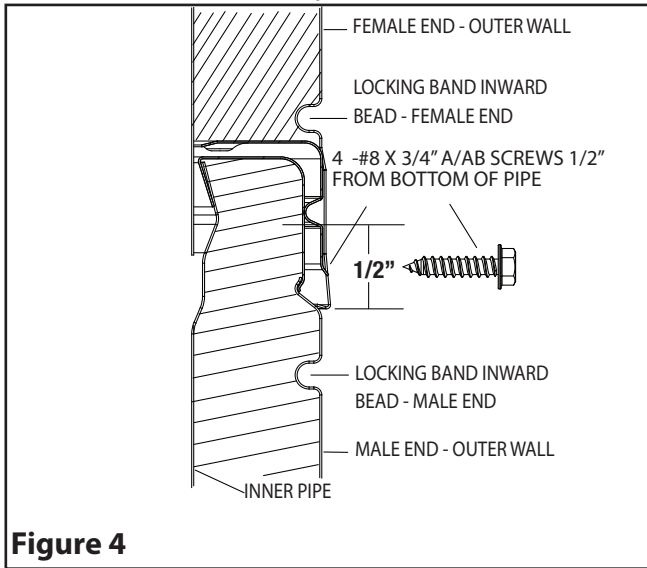

Figure 4
As an alternate to the Locking Band, you can secure the joint with four (4) - #8 x 3/4" A/AB stainless steel screws (not supplied) Pre-drill if necessary. Must be evenly spaced, 1/2" from the end of the pipe. See **Figure 4**, showing Securing Diagram (Close up, Cross-Section of Chimney Joint).
NOTE: If a joint is to be located within the Attic Insulation Shield, you will need to substitute the Locking Band with 4 sheet metal screws instead (refer to **Figure 4**).